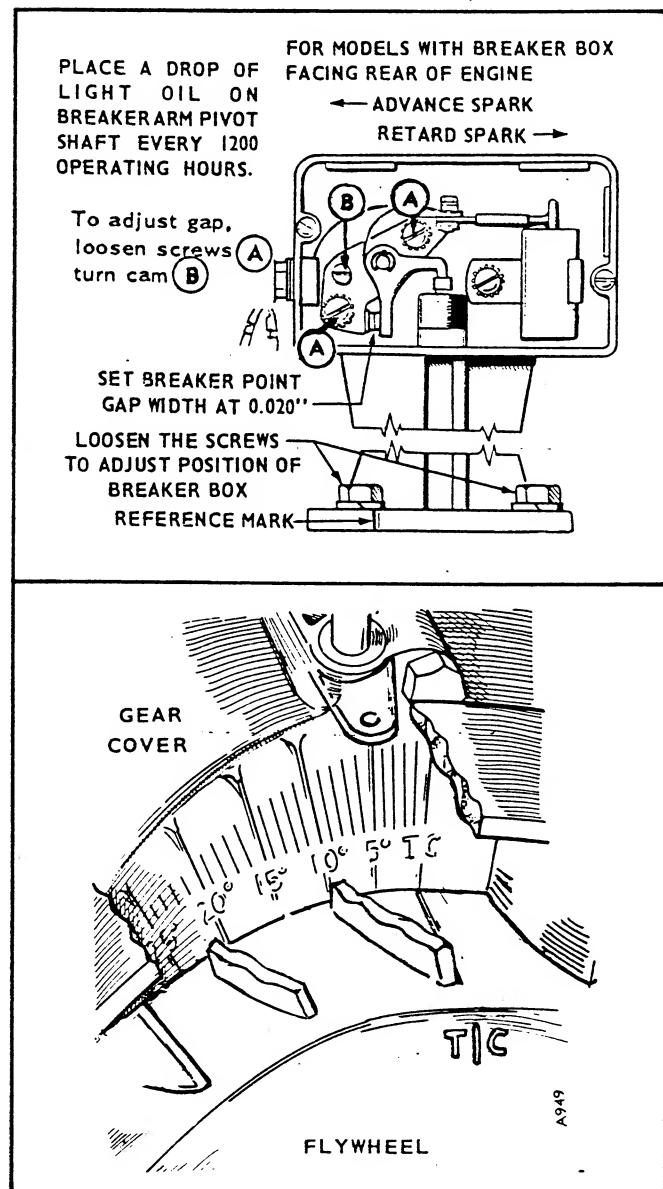

FIGURE 25. IGNITION & TIMING ADJUSTMENTS
(Figure 25).
- Tighten all screws, replace timing plug, breaker box cover (Figure 25) and any other hardware removed.